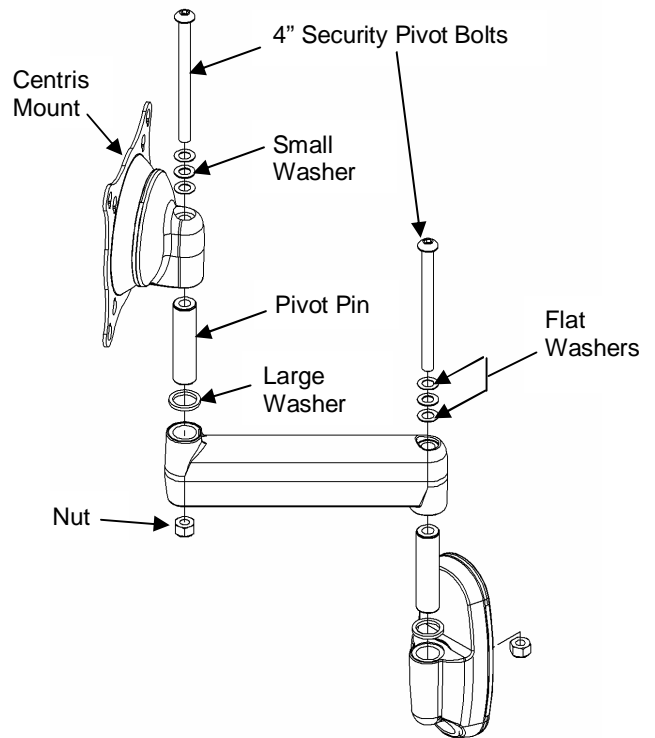

Figure 4. Install 4-inch Security Pivot Bolt (Swing Arm Example)
2. Remove the 4-inch pivot bolt from the Centris mount. Exercise care to retain the other parts shown in Figure 4.
3. Install the 4-inch security pivot bolt (10) at the Centris mount. Make sure the other parts are installed in place as shown in Figure 4.
4. Repeat Steps 2 and 3 to install the second 4-inch security pivot bolt (10) into the other end of the mount.